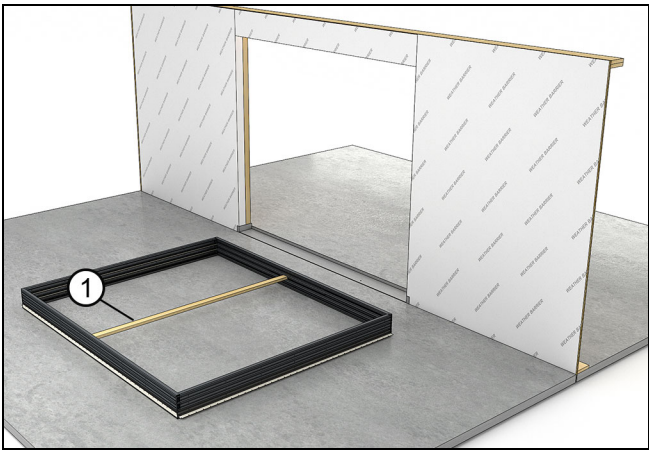

Figure 50
1. Insert a "story pole" between the top of the sill and the head jamb track. Refer to field calculations for the proper length of story pole. See Figure 50.